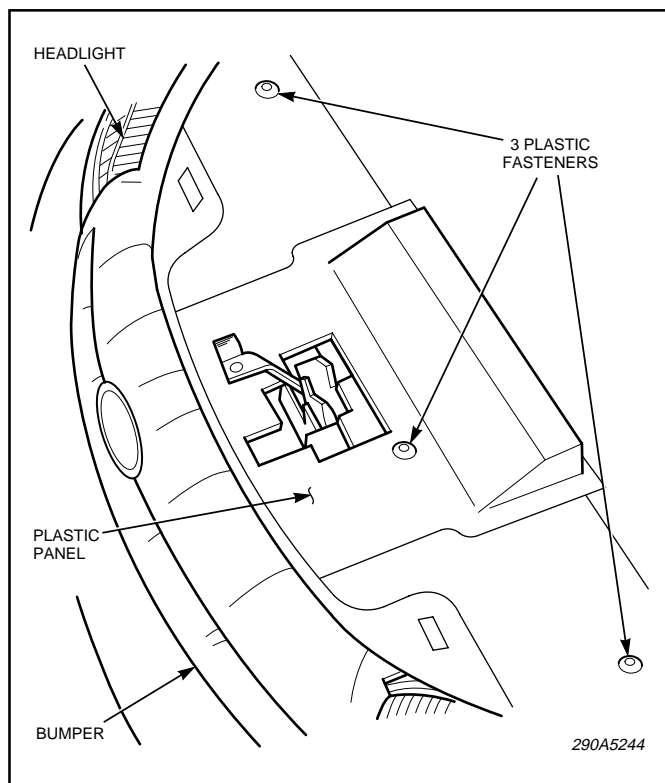

Figure 1.
1. Raise the vehicle hood. See figure 1. Locate the plastic panel between the radiator crossbar and the grill fascia.
8. See figure 1. Replace the plastic panel (removed in step 2) and secure in position using the previously removed plastic quarter-turn fasteners.